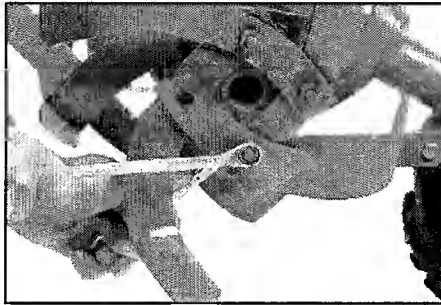

Figure 5-7: Removing single tine (Econo-Horse tines shown).
1. With the engine shut off and the spark plug wire disconnected, remove the two bolts and nuts that attach a single tine to the tine holder (Figure 5-7). If needed, use penetrating oil to help free the nuts.